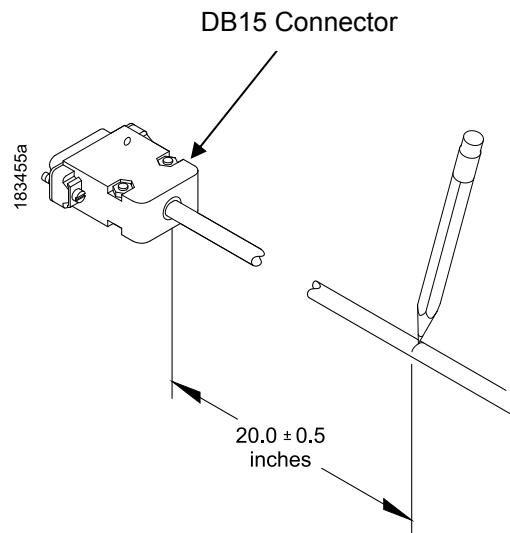

Figure 10 Locating the Ferrite Position on the Power/Data Cable (T8)
4. Measure back 20.0 ± 0.5 inches from DB15 connector and mark the cable with a pencil line (Figure 10).